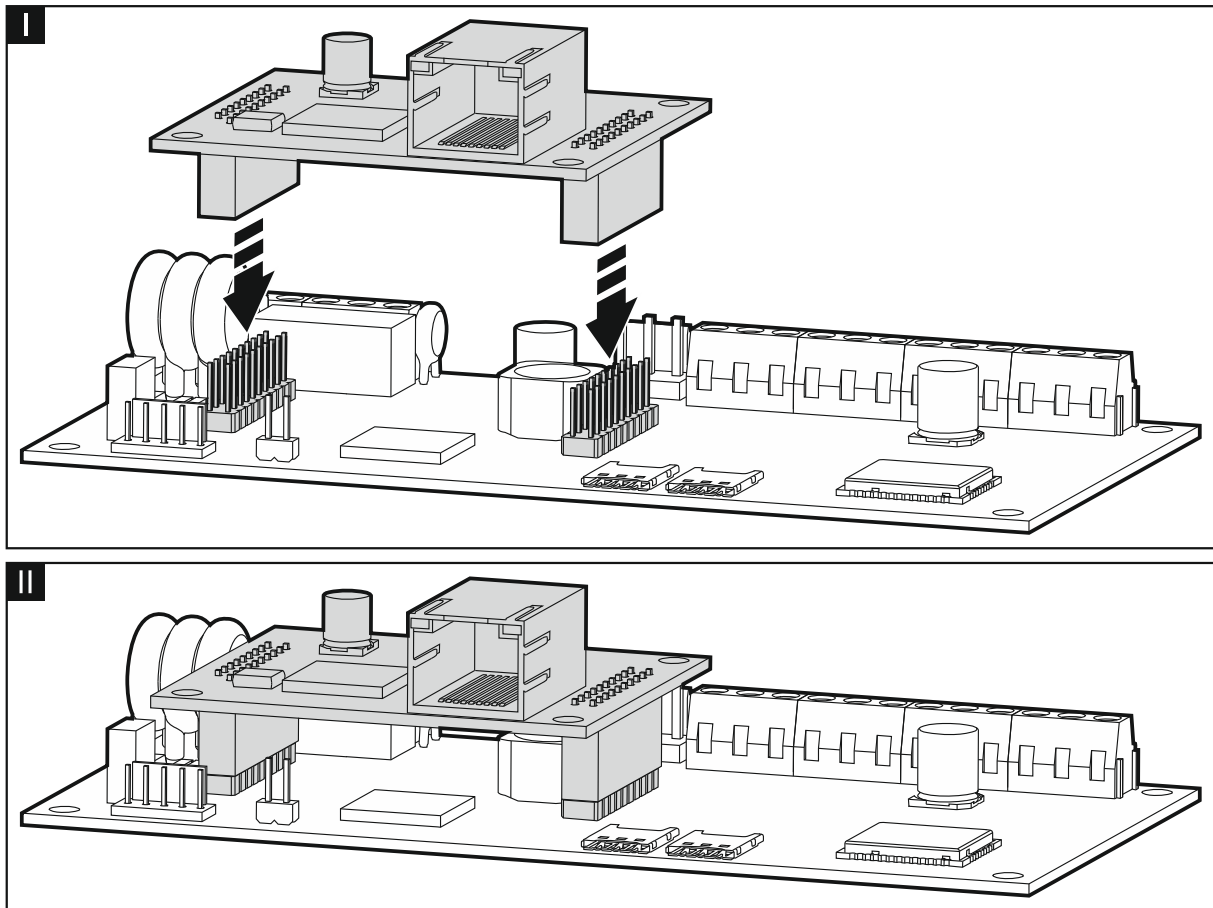

Fig. 15. Installing the GSM-X-ETH module on GSM-X module electronics board.
3. Install the GSM-X-ETH Ethernet module in the connectors on the GSM-X module electronics board (Fig. 15).